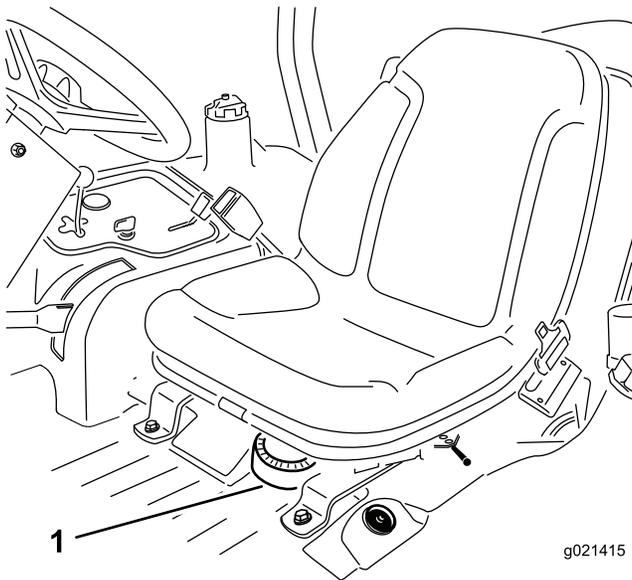

Figure 49
1. Remove the seat from the machine to access the fuel pump (Figure 49).